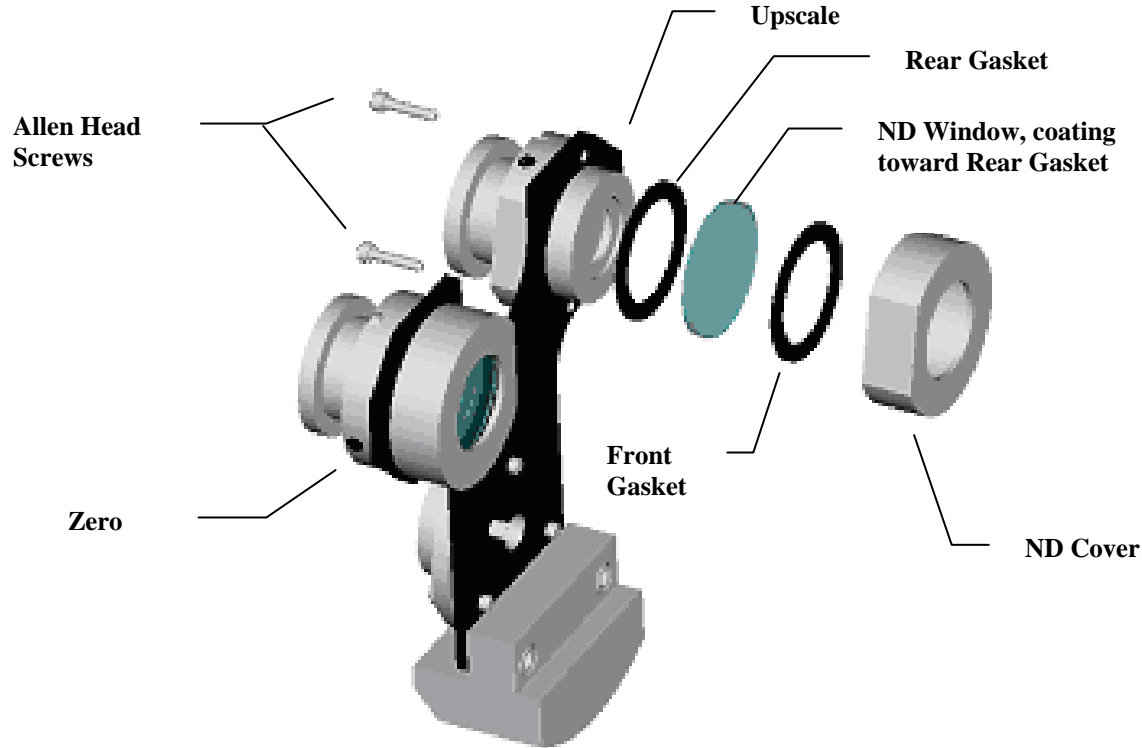

Figure 8-7
2. Remove the 2 Allen head screws holding the ND cover on the appropriate Iris. See Figure 8-7.
3. Remove the ND cover, front gasket, ND window and rear gasket. See Figure 8-7.
4. Re-assemble the rear gasket, new ND window, front gasket and ND cover as shown in Figure 8-7. ***Note: The ND window must be installed with the coating side IN toward the rear gasket.***